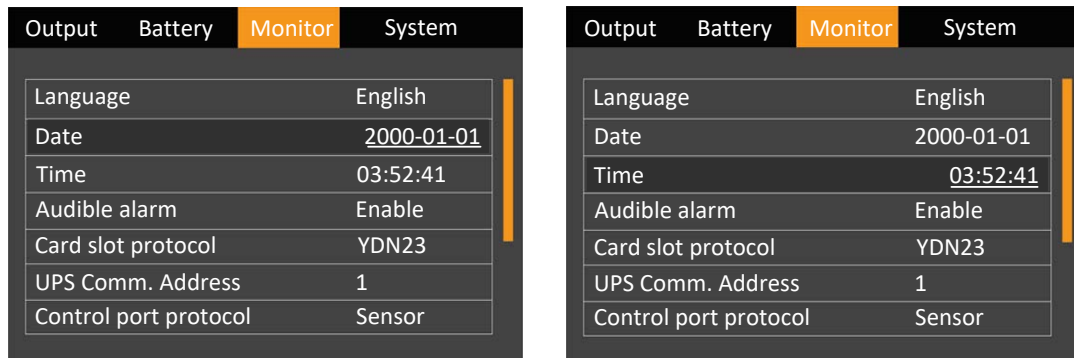

Figure 5-17 Changing date and time
4. Press the **Enter** key, move the cursor and press the **▲** or **▼** key to change the date and time you need. See Figure 5-17.